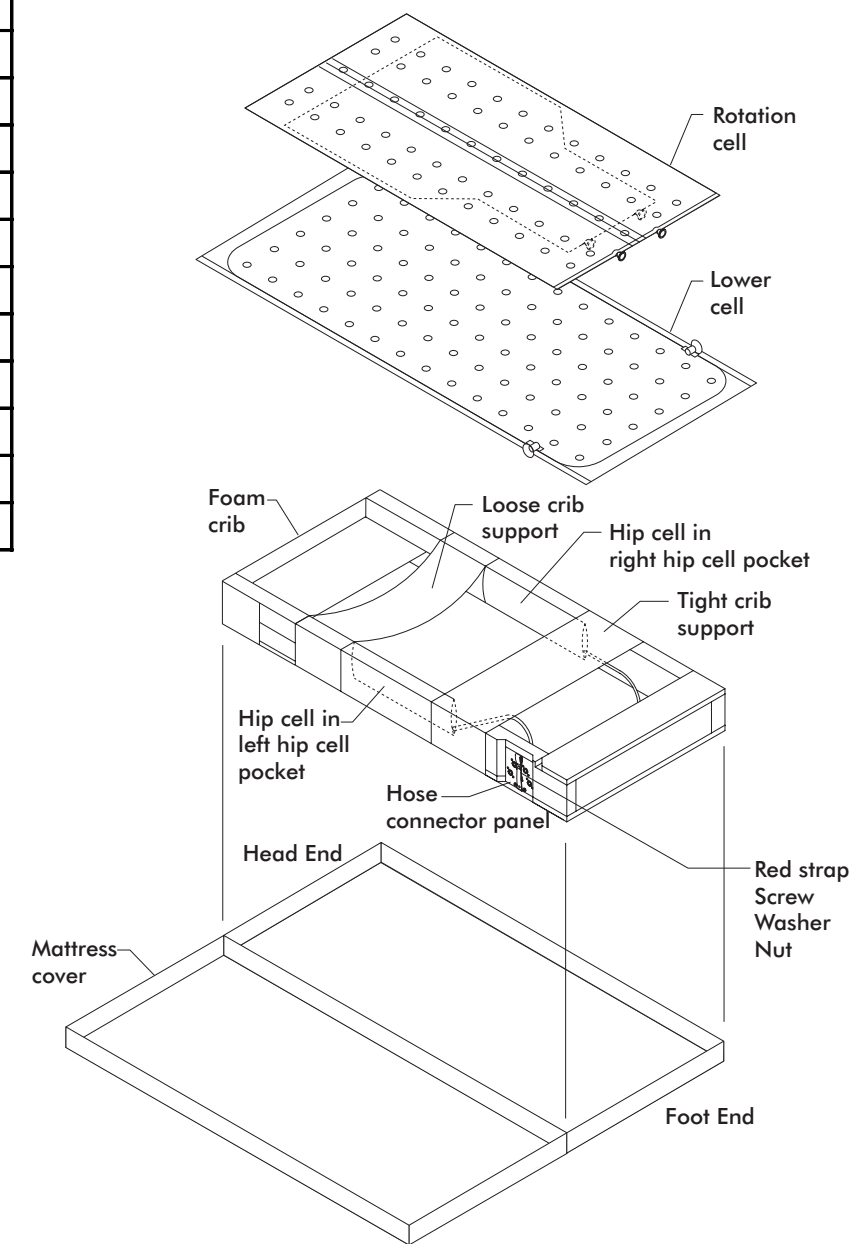

Figure 13—CLM Mattress
NOTE: The RIGHT and LEFT references in figures 13, 14, 15 and 17 are as viewed from the foot end of the mattress.
1. Unzip and open mattress cover completely. Foam crib may remain in lower half of mattress cover. See figure 13.
2. **Hip cell replacement:** Slide new cells into pockets on long sides of foam crib inner wall. See figure 13. They must slide in from head end of mattress so that the tubes can pass through the pocket openings. Attach the tubing as shown in figure 17.
4. **Rotation cell replacement:** The rotation cell consists of two cells welded together lengthwise through the center. See figure 13. It has four connectors: upper-right, upper-left, lower-right, and lower-left. Place it so that the larger cell with the circle pattern is facing up, and the four valves are at the foot end. Place the rotation cell under the tight crib support and over the loose crib support (see figure 13). At the head end, snap the lower part of the rotation cell to the red strap at two places. Push the four connectors securely onto the barbed fittings indicated in figure 15, Detail A-A. Smooth the cell.